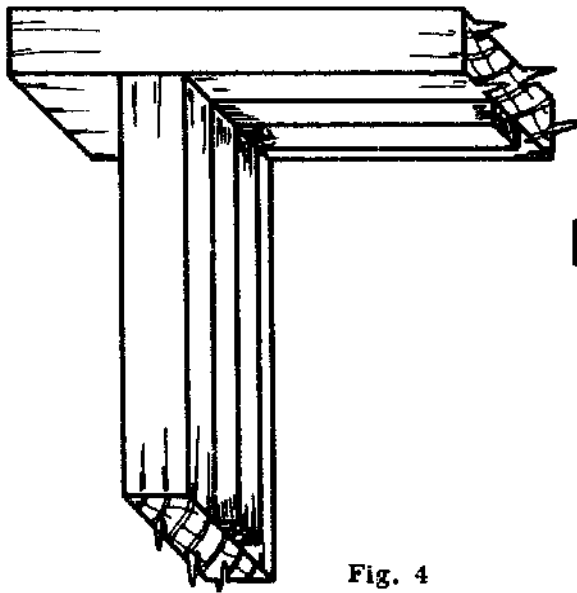
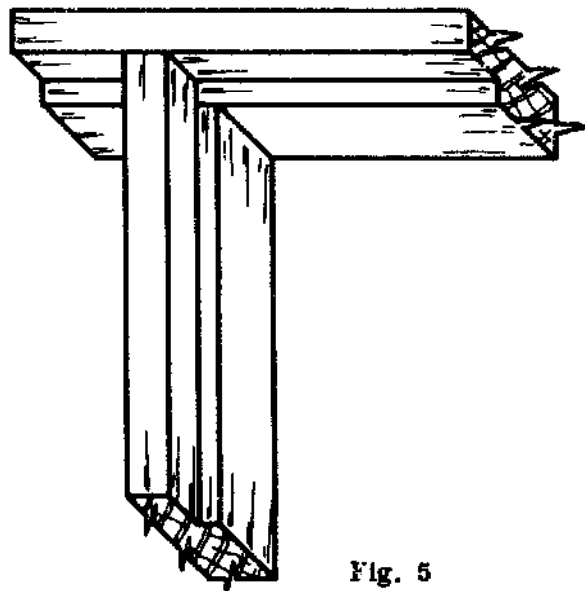

Fig. 4
Fig. 5
Vibrations from opening and closing the door or window, as well as the shrinking and swelling of the frame, will cause cracks to appear in the plaster and even cause pieces of plaster to come off. To prevent this and to cover the unavoidable cracks, a V-joint is made wherever plaster or render is flush to the frame. This may be covered with a wooden strip (Fig. 4). It is incorrect to apply plaster or render directly against the frame (Fig. 5, arrow).
- **BEAD OR REBATE TYPE DOOR FRAMES:** Each of the above door frames can be made either with beads (Fig. 4) or a rebated construction (Fig. 5).